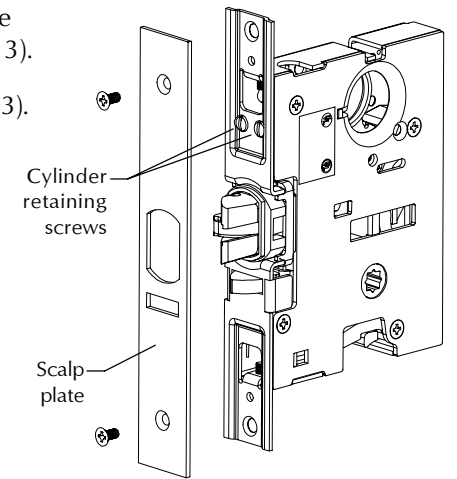

Figure 3
1. Exit device, trim, and mortise lock should be installed and scalp plate removed (Figure 3).
2. Back out cylinder retaining screws (Figure 3).